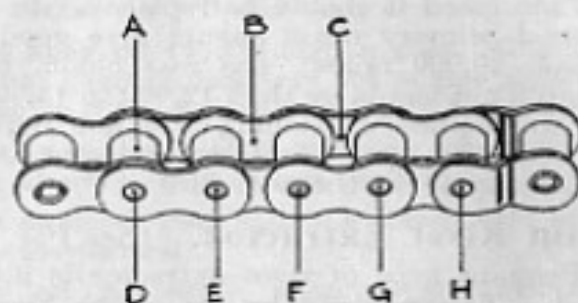

FIG. 5. LENGTH OF CHAIN WITH CRANKED LINK.
The illustration, Fig. 5, shows a short length of chain ending in a plain inner link at the left hand
- (d) **To shorten a Chain not containing a Cranked Link.** Extract the third and fourth rivets (F and G) counting from the joint (left hand end of chain in Fig. 5) and join up the chain by using the double cranked link (Fig. 8) and single connecting link (Fig. 7).